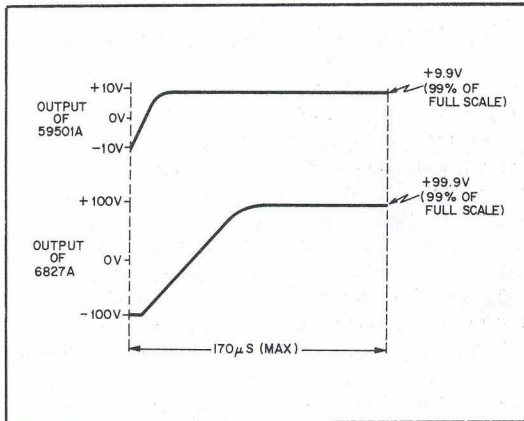

Figure 4-8. 59501A and 6827A Response Times
**4-46 BPS/A Response Time.** Bipolar power supply amplifiers (BPS/A's) are high speed instruments compared with power supplies and are well suited for use with the 59501A. Figure 4-8 illustrates the response time of a model 6827A BPS/A with respect to the analog slew time of the 59501A. The 6827A can be programmed through its full bipolar range ( $\pm 100V$ ) in  $170\mu\text{sec}$  (max). This time does not include the data acceptance time of the 59501A.